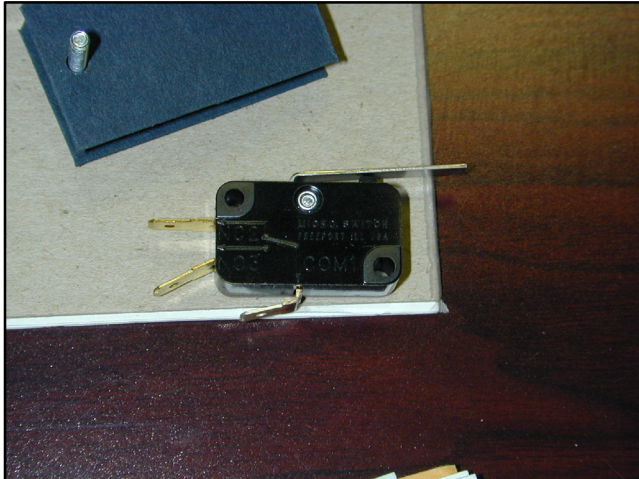

Figure 7-12 Microswitch
9. Remove the suspect microswitch. See Figure 7-12.